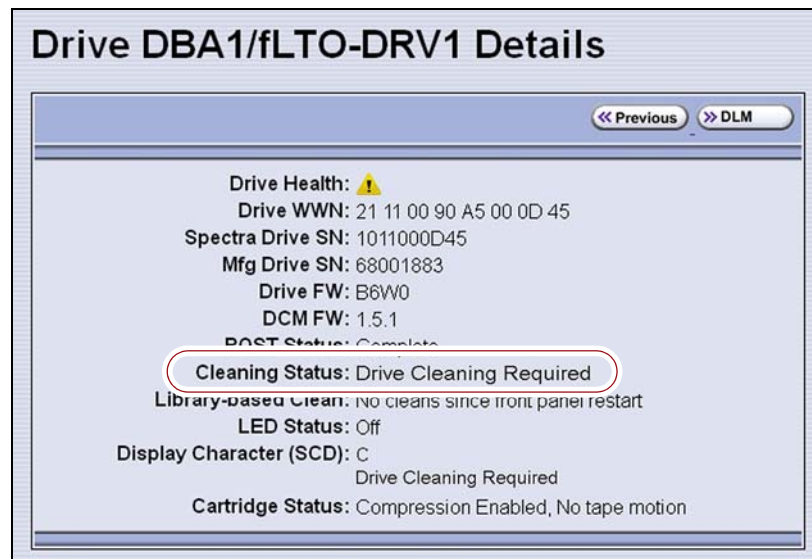

Figure 295 The Drive Details screen, cleaning required.
Overview Whenever a tape is loaded or unloaded, the read/write heads are physically cleaned by a brush located within the drive. However, after reading and writing a large amount of data (the exact amount varies by drive type and generation) or if read or write errors occur, the drive requests to be cleaned with a cleaning cartridge. The request is made by sending a Tape Alert message to the host, and displaying a **C** on the SCD for an LTO drive or **CLEAN*** on the MCD for a TS11xx technology drive. The notification is also posted to the library's Drive Details screen (Figure 295 on page 473) and the DLM drive health icon for the drive changes to yellow (see Using the Drive Health Icons on page 320 for additional information).
- The Drive Details screen indicates that the drive needs cleaning or displays a **C** on the SCD for an LTO drive or **CLEAN*** on the MCD for a TS11xx technology drive (see Figure 295 on page 473).